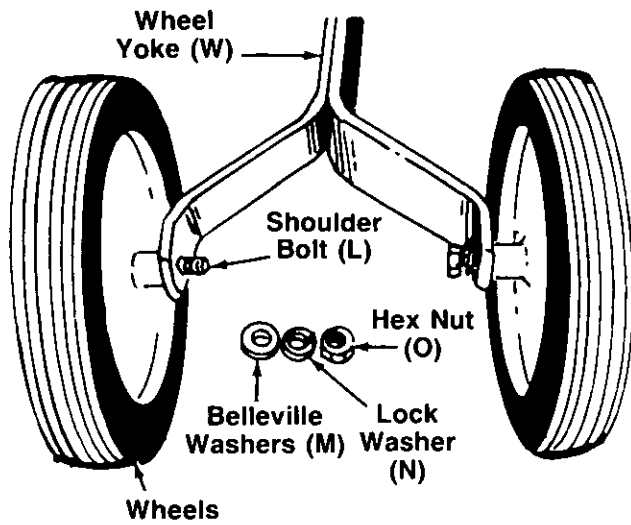

FIGURE 5.
- Assemble wheels (AC) to wheel yoke (W) with shoulder bolts (L), belleville washers (M) (cupped side of washer is against the wheel yoke), lock washers (N) and hex nuts (O) as shown in figure 5. A  $\frac{3}{4}$ " wrench and an adjustable wrench is required.